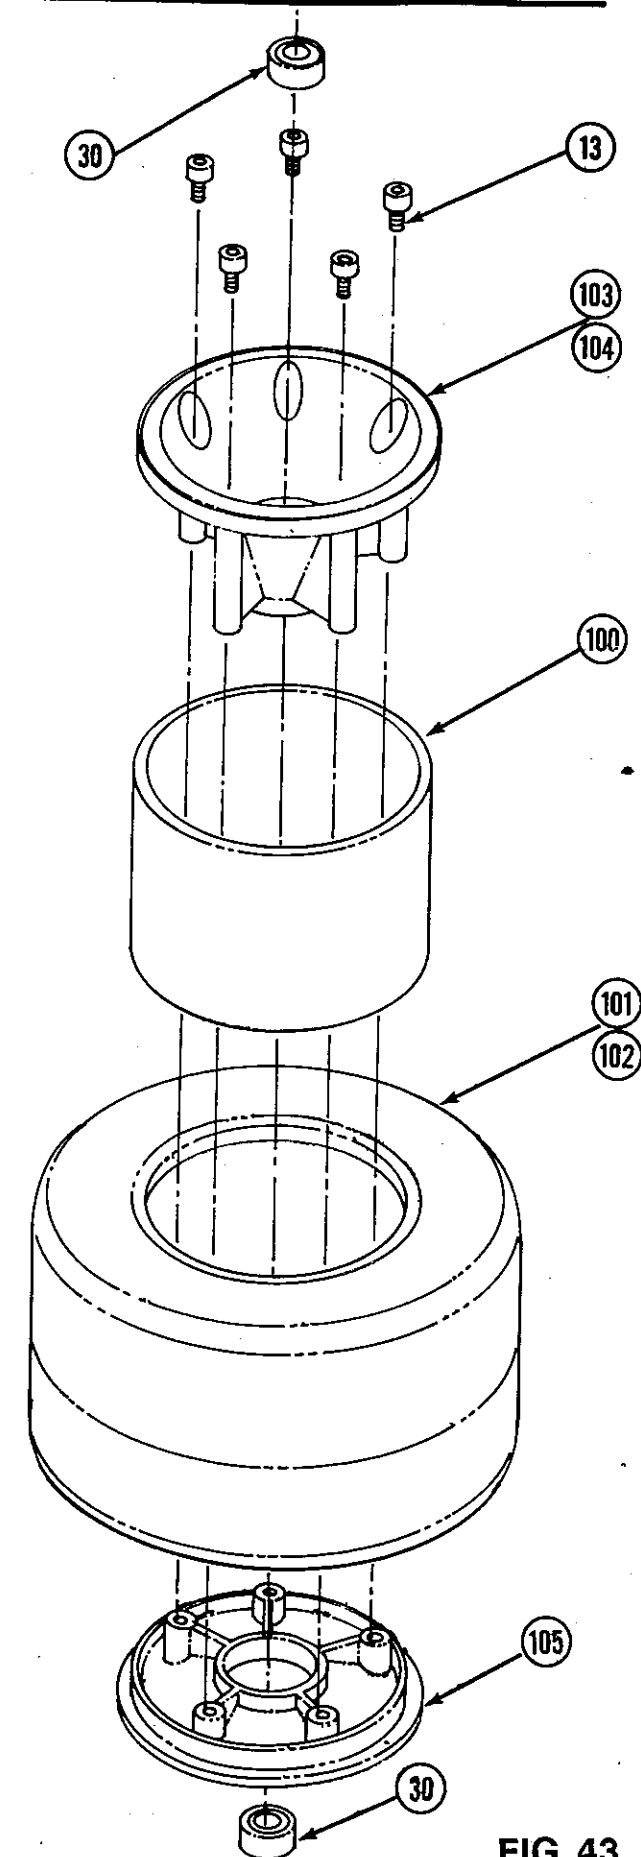

FIG. 43
1. Insert the wheel ring (100) inside the tire (Front 101, Rear 102) being sure that it seats evenly around the inside bead of the tire. Fig. 43.
2. Press the outside wheel half (Front 103, Rear 104) into the tire. The bead of the tire should sit on the bead flange of the outside wheel half so it will be pinched between the wheel ring (100) and the flange of the outside wheel half (103, 104). This can be accomplished by pulling up on the side wall and working around the tire until the bead is completely seated. Water may aid in this operation. Fig. 43.
3. Place the tire and outside wheel half (103, 104) face down. Insert the inside wheel half (105) into the tire and align the locating mark (small line) on the hub of the outside wheel half (103, 104). Hold the tire up to the light. While looking down the assembly holes of the outside wheel half (Front 103, Rear 104) align with the holes of the inside wheel half (105) and press rim halves together. Fig. 43.
4. Set the tire bead around the bead flange of the inside wheel half exercising care not to lose alignment. Fig. 43.
5. Screw the two wheel halves together using the five 4-40 x 5/16" socket head screws (13) provided.
* NOTE: Gradually tighten in an alternating pattern to apply even torque. Fig. 43.
6. Press two 3/16" x 3/8" bearings (30) into each front wheel assembly. Fig. 43.
7. Secure front wheels on axles using #10-32 nylon nuts (118). Tighten nuts but do not bind wheels.
8. Secure rear wheels on axle assemblies making sure drive pins are engaged in wheels and secure with #10-32 nylon nuts (118). Fig. 43.